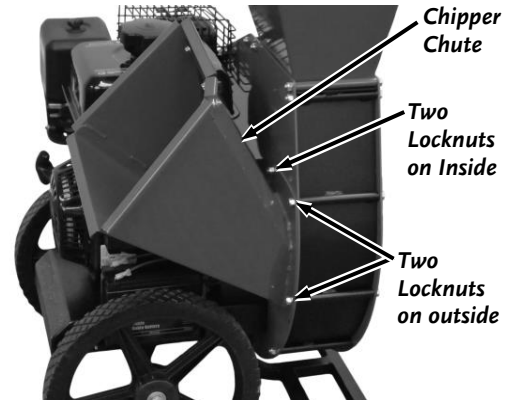

Figure 24
2. Remove the four Locknuts securing the Chipper Chute using two 1/2" Wrenches (**Figure 24**). Remove the Chipper Chute.